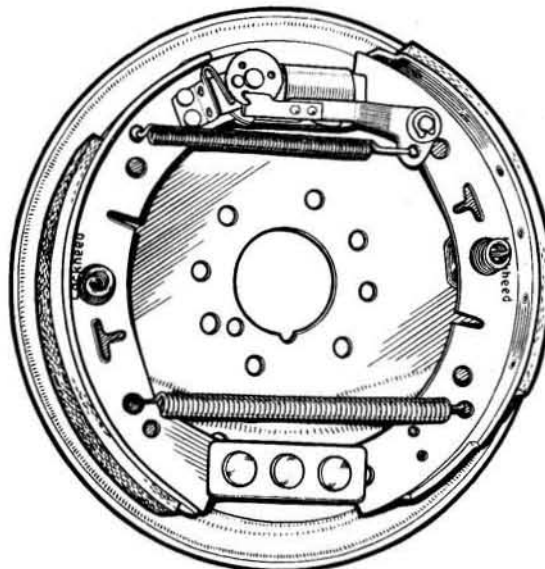

Fig.9.2. Drum brake rear left hand (right hand similar but opposite way round)
- 19 When installed on the backplate, the toe of the leading shoe is to be adjacent to the wheel cylinder piston, whilst the toe of the trailing shoe engages a slot in the fixed housing. This condition is clearly shown in Fig. 9.2.